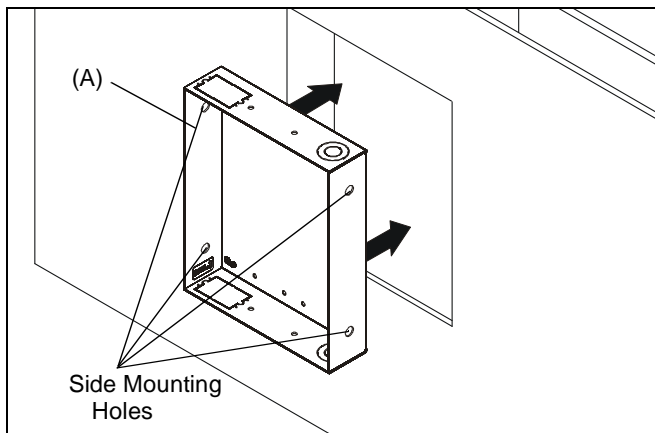

Figure 3
- Install PAC-GB1 Listed electrical box accessory (not included) into the TA502 (A) following instructions included with the PAC-GB1.
- Center TA502 (A) in opening and insert into opening.
- Align front of box with front face of wall. (See Figure 3)
- Drill four 3/16" diameter pilot holes in studs at side mounting holes. (See Figure 3)